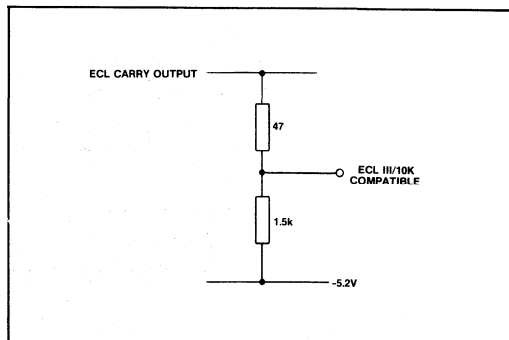

Fig.7 ECL II to ECL III/10K interface
4. The ECL Carry output (pin 9) is ECL II compatible but can be interfaced ECL III/10K by the inclusion of two resistors. See Fig.7.